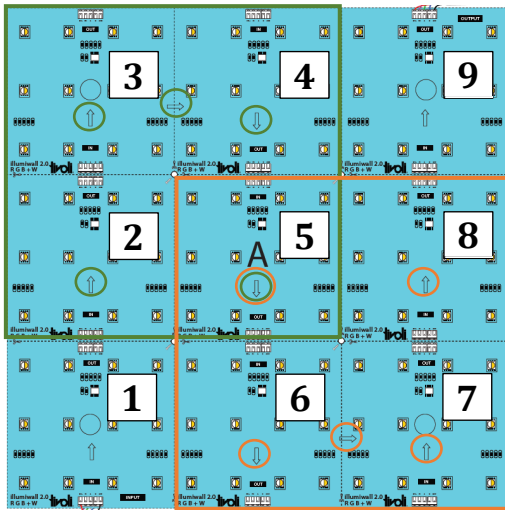

Figure 4 Configuration A
- For a 2x2 section, cut out sections #2, #3, #4, & #5 or #5, #6, #7, & #8 [Figure 4].